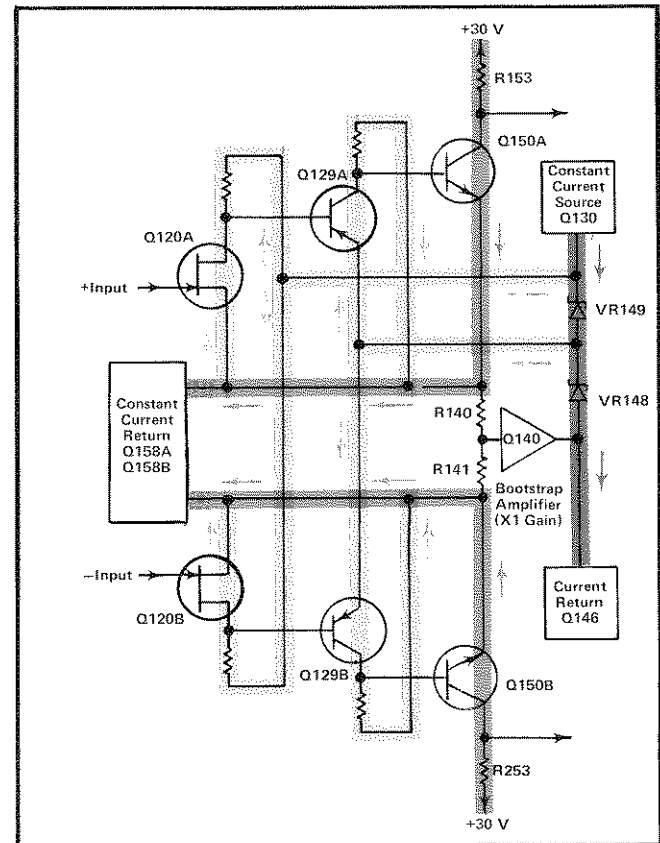

Fig. 3-2. Floating Power Supply detailed block diagram showing standing current paths through the Preamp.
**Floating Power Supply.** A floating power supply made up of Q130, Q140, Q146 and Zener diodes VR148 and VR149 minimize inherent common-mode difficulties and therefore improves the common-mode rejection ratio (refer to Fig. 3-2). Q146 is a constant-current high-impedance source for Q140, and Q130 is the current return for the preamplifier stage.